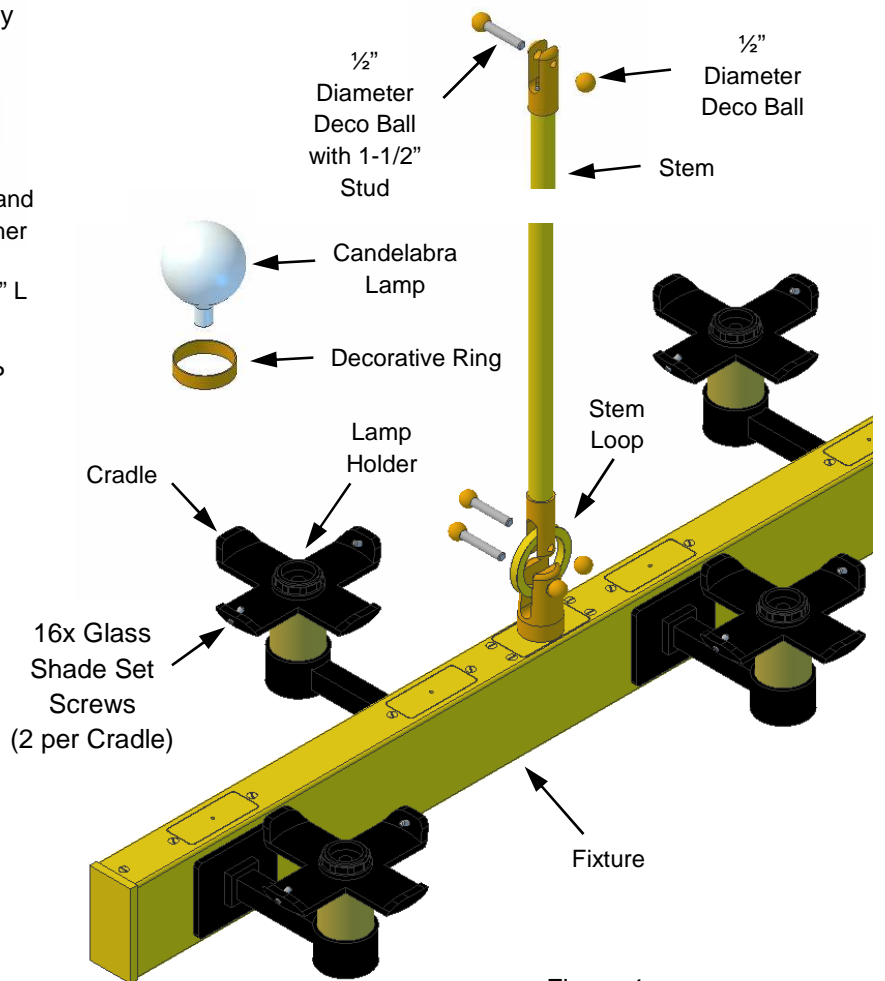

Figure 4
Step 5: Assemble the Fixture. Securely fasten all Stems, ½" Deco Balls with 1-½" Studs, Loops, and ½" Deco Balls as shown. SCREW EACH STUD THROUGH THE PARTS AS SHOWN AND SECURE WITH THE 6 LOOSE ½" DECO BALLS. Route the Fixture Cable through one Stem to the top in preparation to connecting to Power Supply Wires. Figures 4 & 5